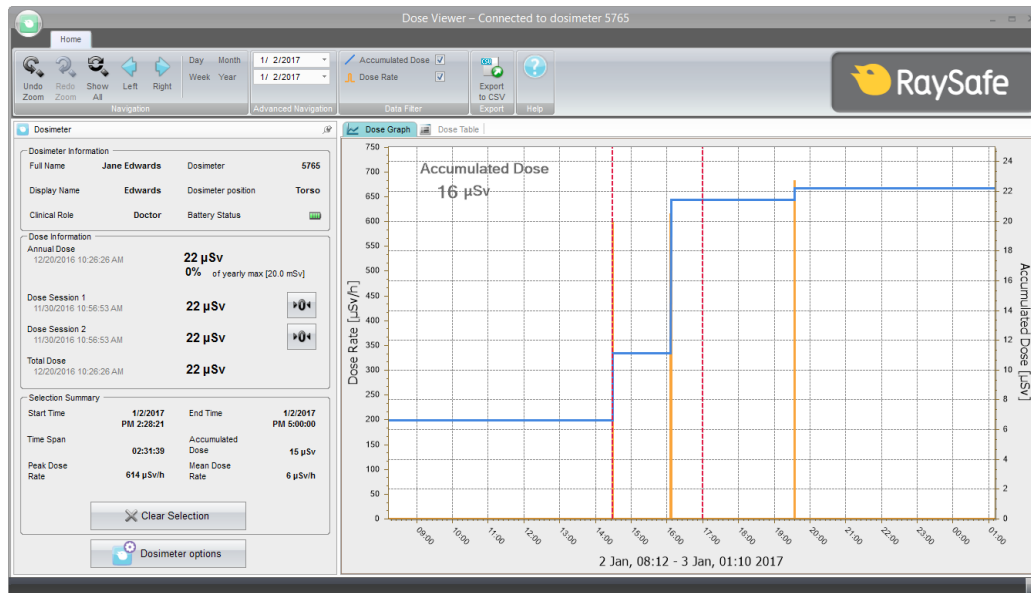

Figure 18. Dose Viewer with a dosimeter connected.
2. Dose Viewer will detect the dosimeter within a few seconds. Ensure that dosimeter information and dose history is presented in the main window (Figure 18).